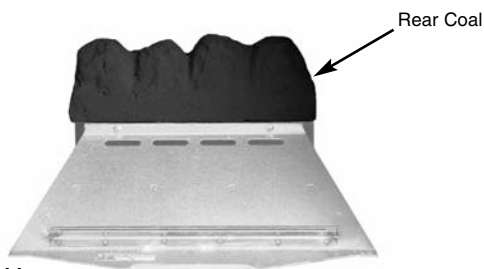

Fig. 11
1. Place the rear coal on the rear ceramic retainer ledge in a central position (Fig. 11).